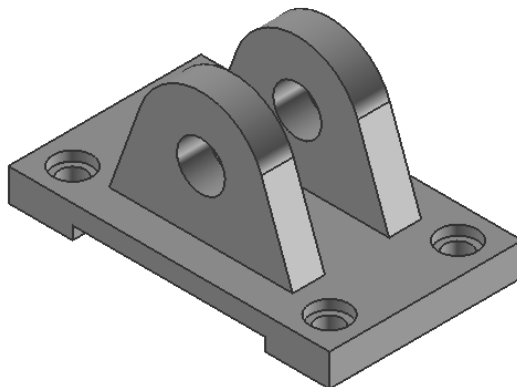

Figure 8-57 The final model
- j. Create the rectangular array of a hole feature using the **Instance Feature** tool, refer to Figure 8-57.
4. Choose the **OK** button from the **Enter parameters** dialog box and then choose the **Yes** button from the **Create instances** dialog box. Exit the **Instance** dialog box. The final model is shown in Figure 8-57.